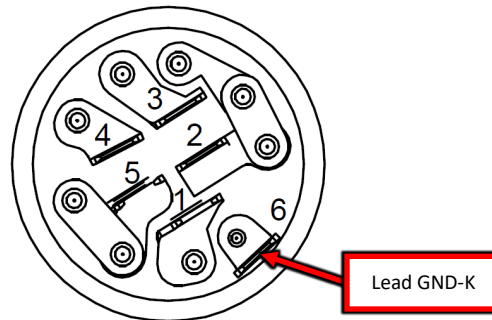

Figure F.3
- A.3. Perform the static measurements in Test Table 1, refer to Figure F.3 for test point locations.